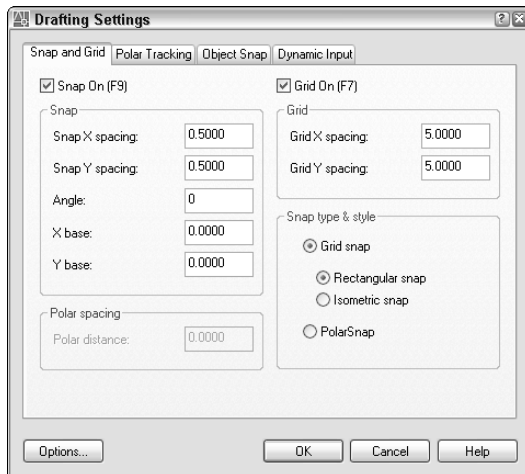

Figure 3-3:
The Snap and Grid tab of the Drafting Settings dialog box appears, as shown in Figure 3-3.
9. Change the values in the dialog box, as shown in Figure 3-3: Snap On checked, Grid On checked, Snap X Spacing and Snap Y Spacing set to 0.5, and Grid X Spacing and Grid Y Spacing set to 5.